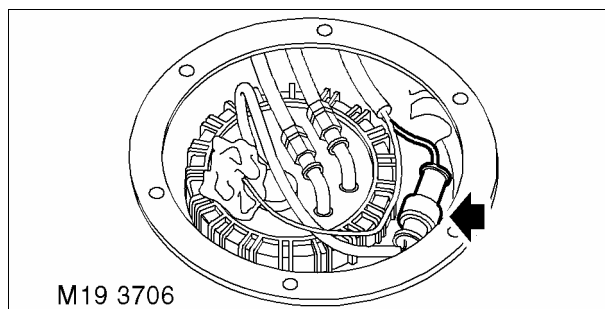

Fig. 4
- 10 Disconnect connector from fuel pump tank unit. Fig. 4.